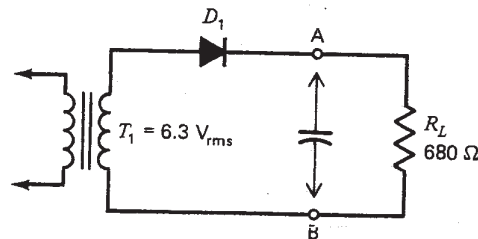

Fig. 55-1. Half-wave rectifier.
- Connect the circuit shown in Fig. 55-1 without the capacitor.
- Connect a 47- μ F filtering capacitor across points A and B in the Fig. 55-1 circuit. Repeat steps 2 and 3 for measuring the output voltage.